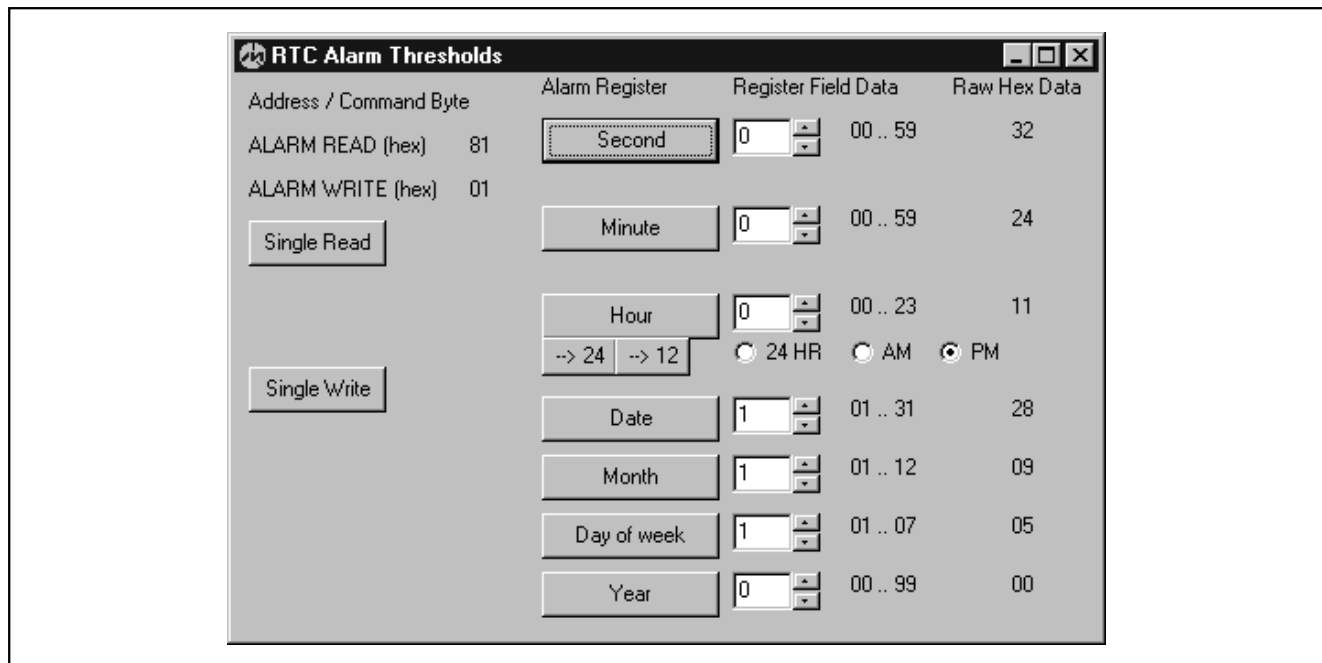

Figure 3. Alarm Thresholds Screen
**Note:** Cyclic Burst Read should be disabled before a read or write to a single register. Figure 3 is the Alarm Thresholds screen.